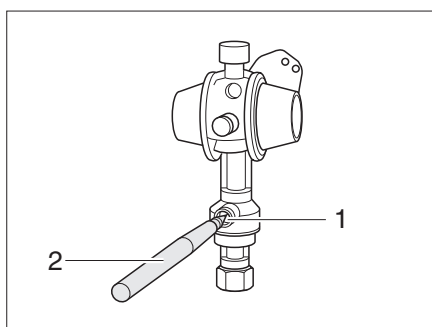

Fig. 69 Crash sensor
The crash sensor (Fig. 69) protects against unwanted gas discharge. In the event of an accident or a too high angle of the vehicle the gas supply will automatically be interrupted.
- Use a pen or similar implement (Fig. 69,2) to press the release knob (Fig. 69,1) in for several seconds.